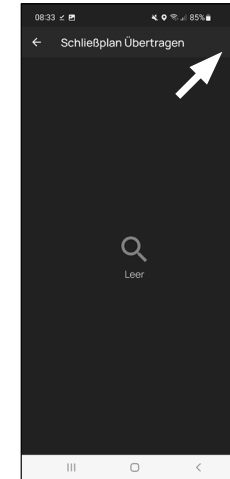
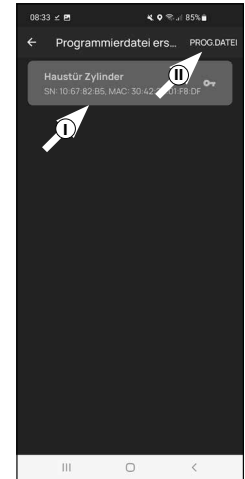

Fig. 1
Fig. 2
- 2 Tap the "+" in the top right-hand corner (Fig. 1).
- 3 Select the cylinder for which you want to transfer information (I) (Fig. 2) and then tap on "Prog. File" at the top right (II) (Fig. 1).